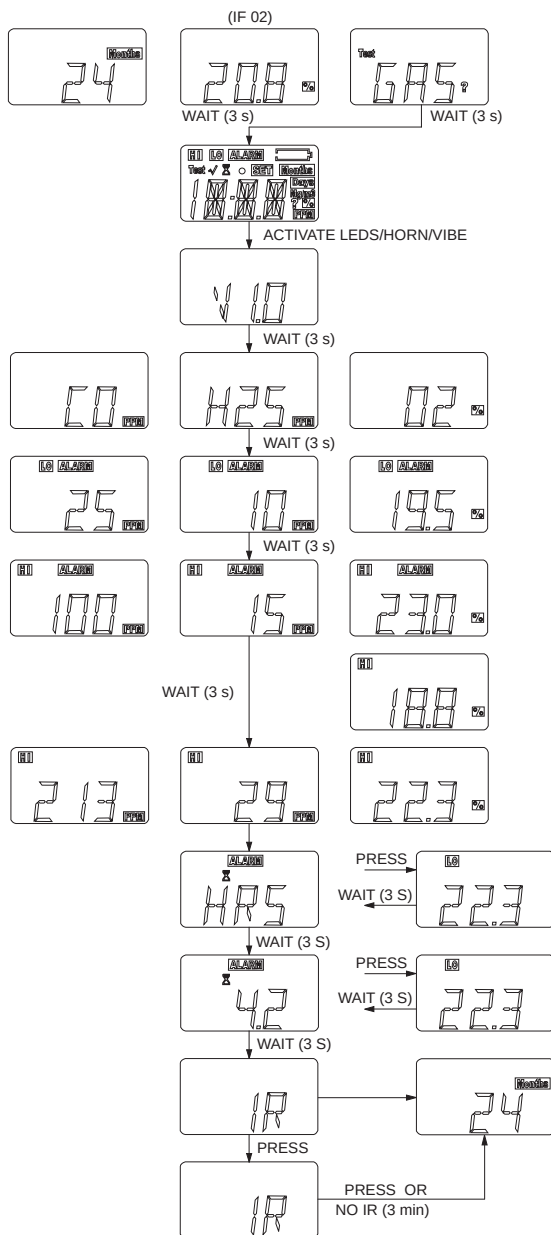

Fig. 5 *Calling instrument information up*
- (1) By pressing the [TEST] key, the stored instrument data can be called up (→ Fig. 5).